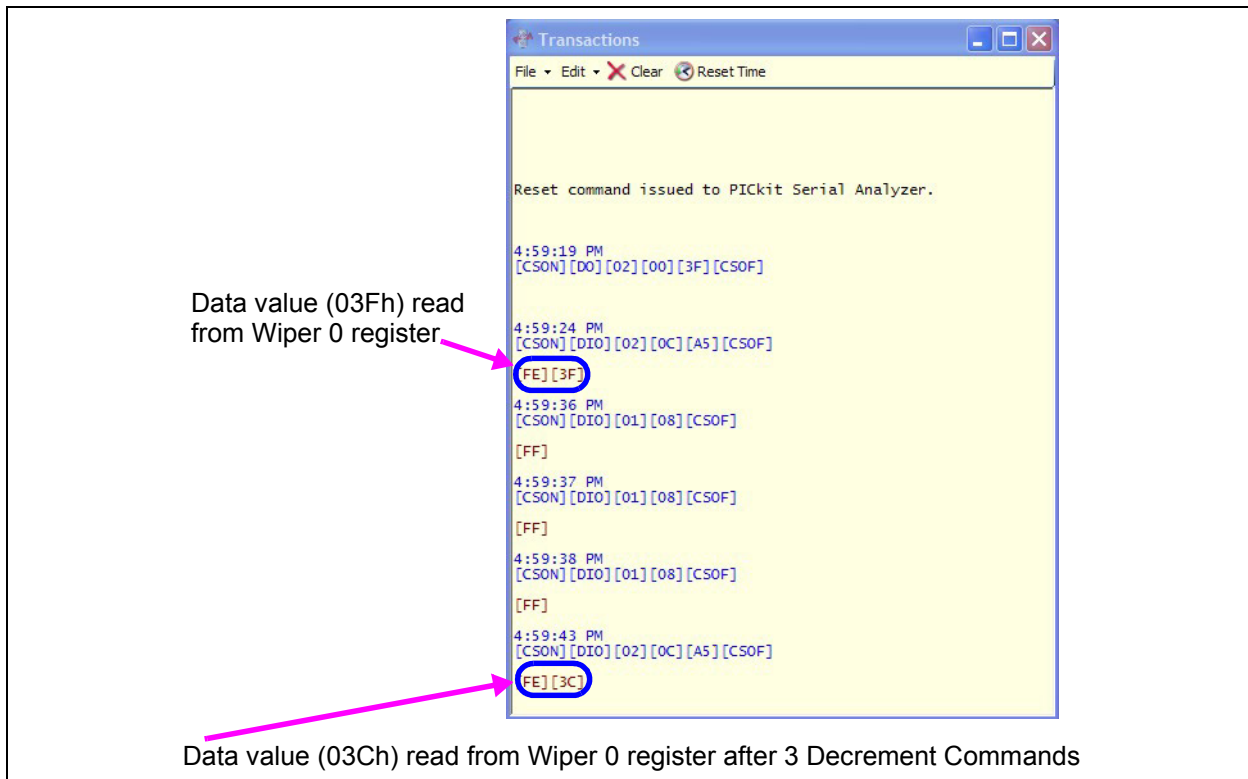

FIGURE 2-14: MCP4261 Transaction Window – Wiper 0 Decrements.
22. Select the “ReadWiper0” script in the User SPI Scripts column and then click on the **Execute Script** button. The Transaction window shows the scripts that were executed and the current value of the Wiper 0 (see Figure 2-14).